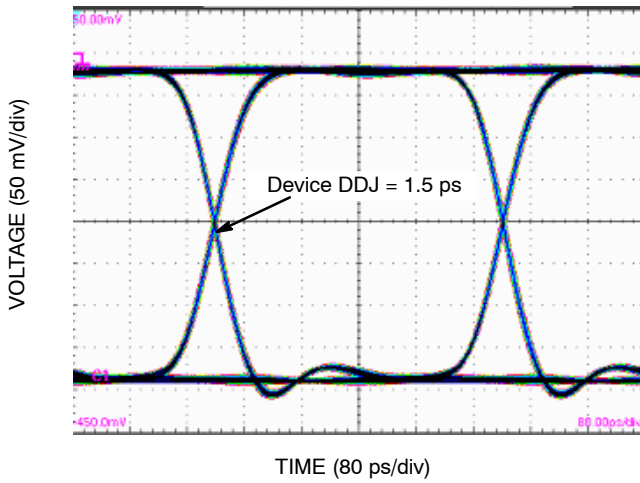

Figure 7. Typical Output Waveform at 2.488 Gb/s with PRBS $2^{23}-1$ ($V_{INPP} = 75$ mV; Input Signal DDJ = 12 ps)
5. Additive peak-to-peak data dependent jitter with NRZ input data signal, PRBS 2²³-1 and K28.7 pattern. See Figures 7, 8, 9, 10, 11 and 12.